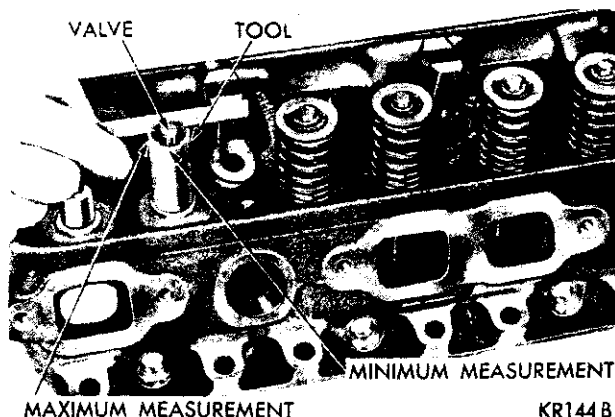

Fig. 12—Measuring Valve Stem Length
(5) When valves and seats are reground, the position of the valve in the cylinder head is changed, shortening the operating length of the hydraulic tappet. This means that the plunger is operating closer to its "bottomed" position, and less clearance is available for thermal expansion of the valve mechanism during high speed driving.
(6) The design of the valve mechanism includes a safety factor to allow for a limited amount of wear, and the refacing of the valves and seats.
(7) To insure that limits have not been exceeded, the dimension from valve spring seat in the head to the valve tip should be measured with gauge, Tool C-3648 (Fig. 12).
(8) The end of the cylindrical gauge and the bottom of slotted area represent the maximum and minimum allowable extension of the valve stem tip beyond the spring seat.
(9) If the tip exceeds the maximum, grind stem tip to within gauge limits. Clean tappets if tip grinding is required.